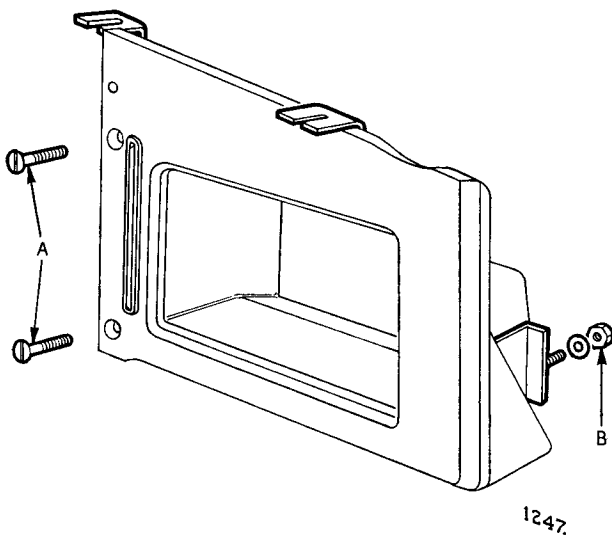

Fig. 3. Removal of right-hand glovebox.
Remove the two screws (A, Fig. 3) securing the glovebox to the dash and the nut (B) and washer from the securing bracket at the rear of the glovebox.